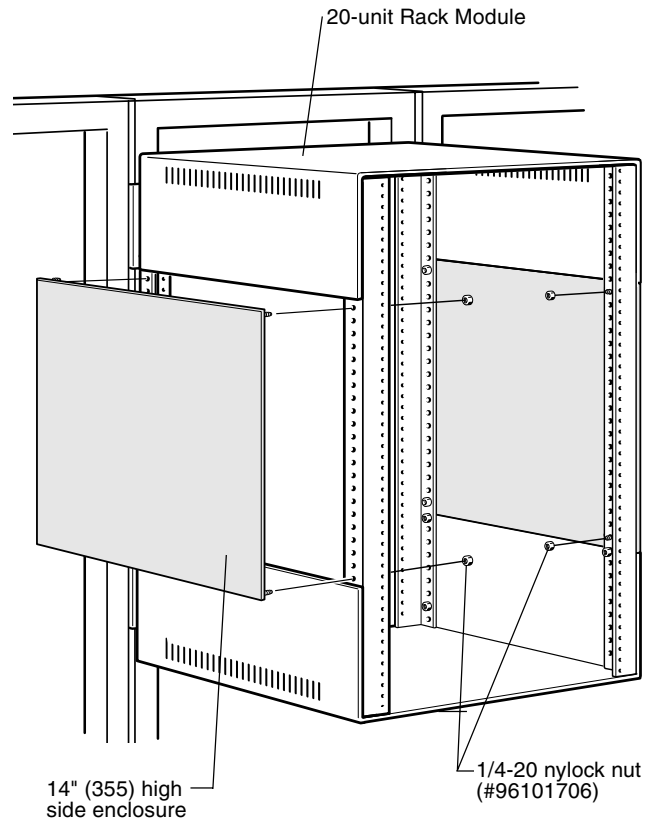

Figure 1
The 20-unit module has 1 panel per side, 14" (355) high. It is installed between the top and bottom wrappers. (Figure 1)
1. Position a side panel outside of installed Rack Module with the holes at the rear. Align studs in panel with the thru holes on the rack rail angle. Fasten to rack rail with four (4) 1/4"-20 nylock nut per panel. Tighten all nuts securely. (Figure 1)